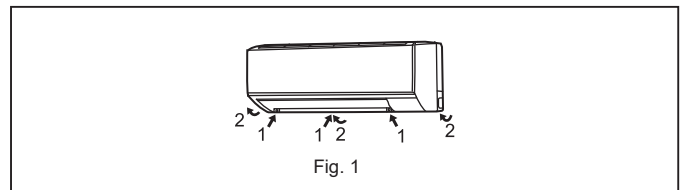

Fig. 1
- Do not cut the drain hose of the unit. (Fig. 1)
- 1) Cut the copper pipe as straight as possible with a pipe cutter. (Fig. 1, 2)
Removal procedure (Fig. 1)